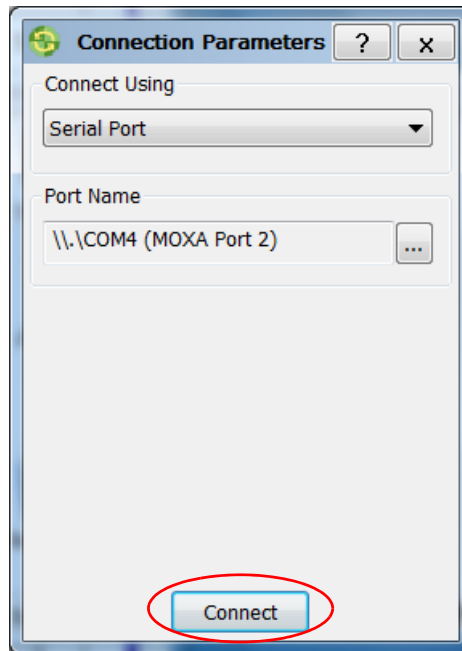

Figure 25: Connect to the Receiver
7. Click **Connect** (Figure 25). The TRU main window appears.